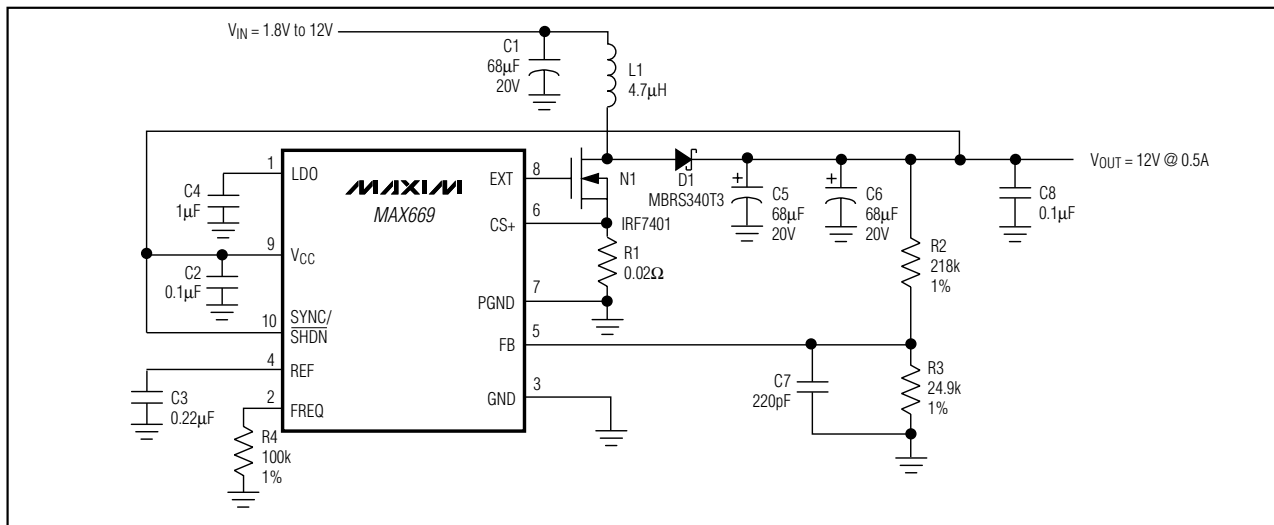
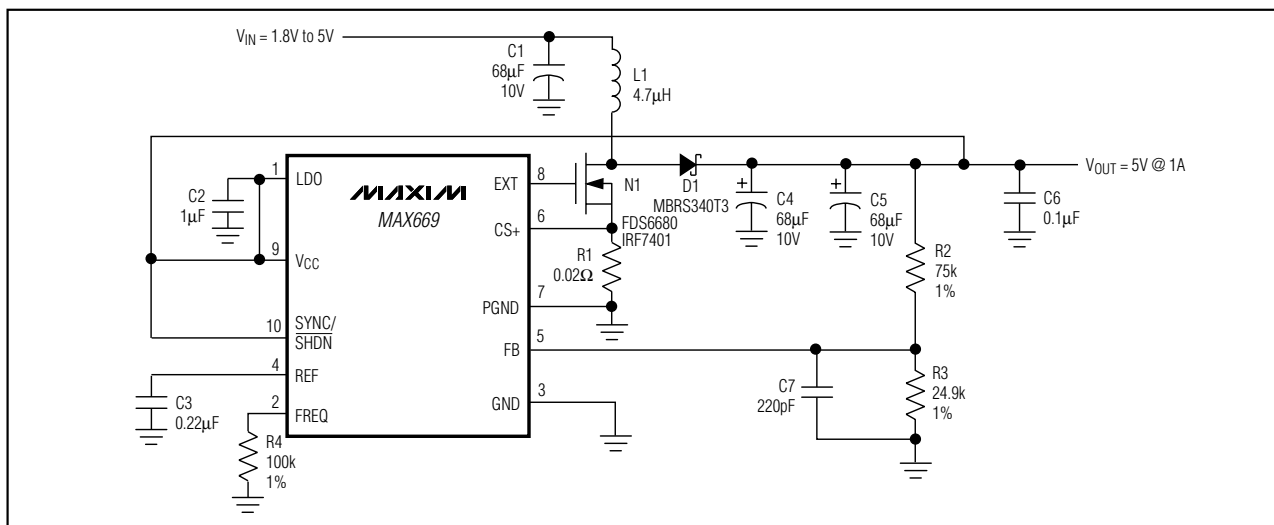

Figure 2. MAX669 High-Voltage Bootstrapped Configuration
Figure 3. MAX669 Low-Voltage Bootstrapped Configuration
(Circuits of Figures 2, 3, 4, and 5; $T_A = +25^\circ\text{C}$; unless otherwise noted.)
V_{CC} and LDO allow a variety of biasing connections to optimize efficiency, circuit quiescent current, and full-load start-up behavior for different input and output voltage ranges. Connections are shown in Figures 2, 3, 4, and 5. The characteristics of each are outlined in Table 1.
With V_{CC} connected to V_{OUT} , as in Figure 2, EXT voltage swing is 5V when V_{CC} is 5.2V or more, and $V_{CC} - 0.2V$ when V_{CC} is less than 5.2V. If the output voltage does not exceed 5.5V, the on-chip regulator can be disabled by connecting V_{CC} to LDO (Figure 3). This eliminates the LDO forward drop and supplies maximum gate drive to the external FET.
* For standard step-up DC-DC circuits (as in Figures 2, 3, 4, and 5), regulation cannot be maintained if V_{IN} exceeds V_{OUT}. SEPIC and transformer-based circuits do not have this limitation.
The output voltage is set by two external resistors (R_2 and R_3 , Figures 2, 3, 4, and 5). First select a value for R_3 in the 10k Ω to 1M Ω range. R_2 is then given by: